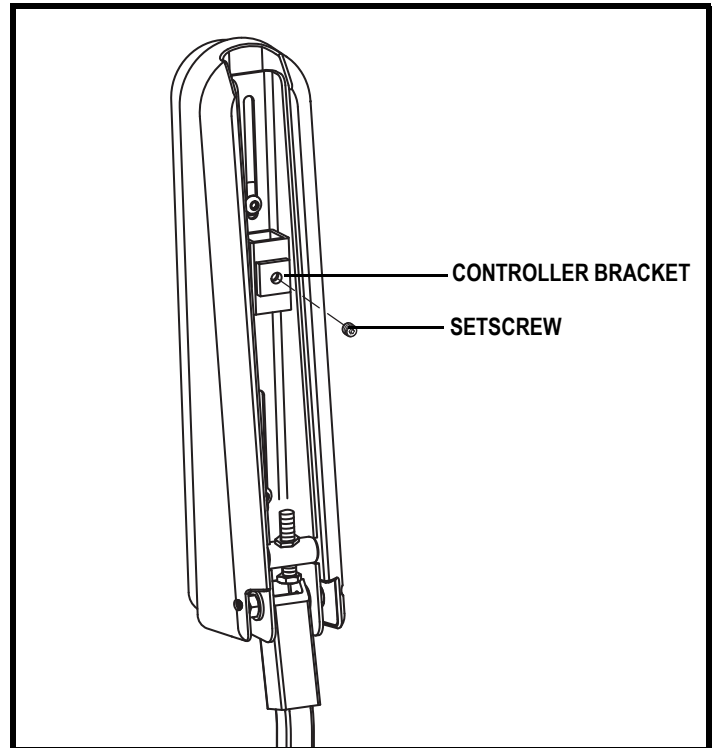

Figure 16. Underside of Armrest
2. Loosen the setscrew on the controller bracket. See **figure 16**.